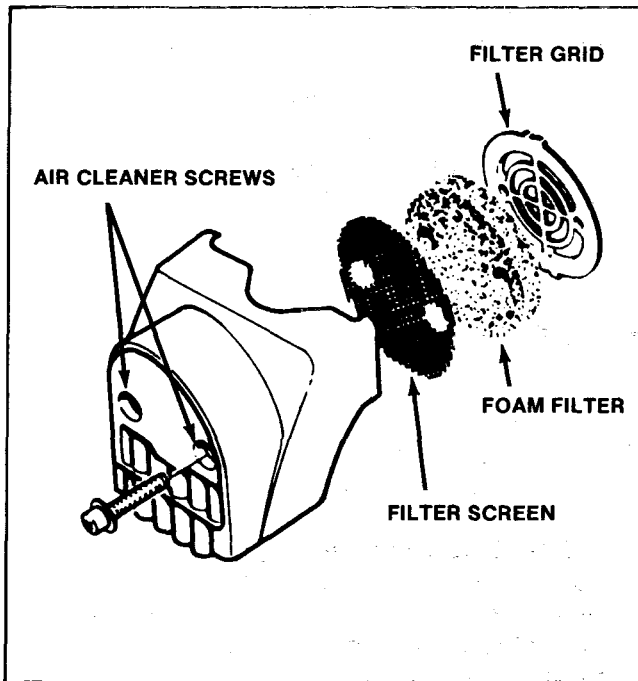

Figure 1
See Fig. 1.
6. Reinstall the air cleaner components as shown in Fig. 1. Note that the flat side of the filter grid faces the foam filter.